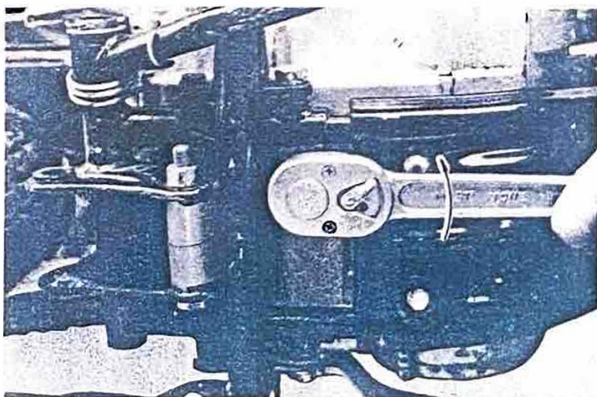

Fig. 4-1-1
1. Start the engine and warm it up for a few minutes, then turn off the engine and drain the transmission oil. (Fig. 4-1-1)